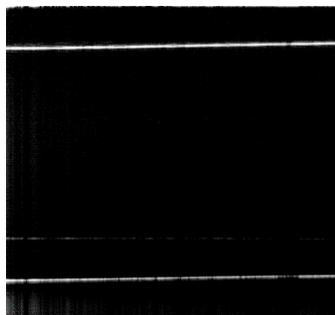

Figure 3
6. From the review tab, click above the top edge of the ruler on the image, drag below the bottom edge, and release (Figure 3). This will provide the layer measurements in mm. Use the average thickness.